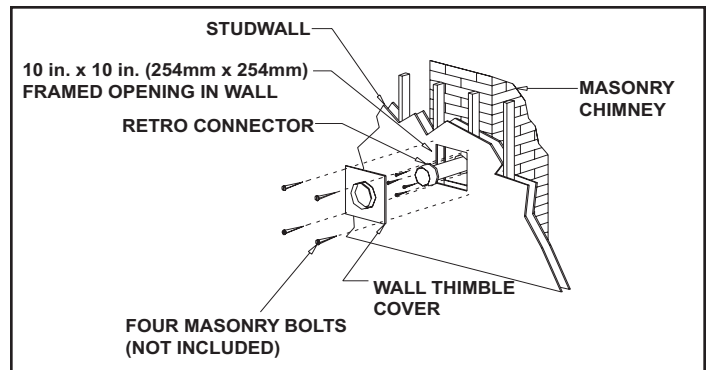
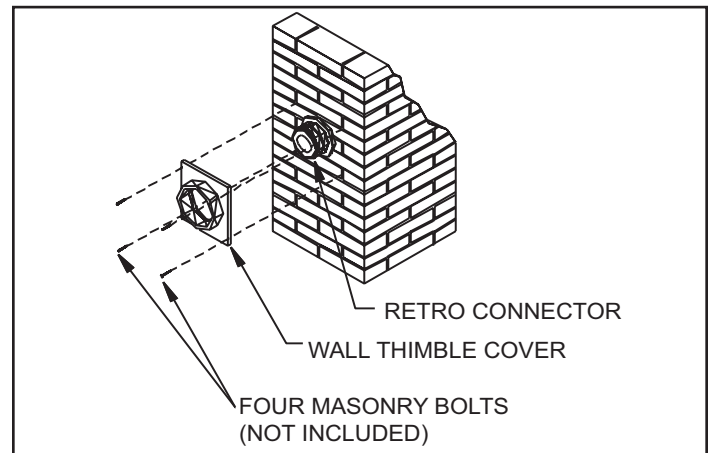

Figure 5.25
Figure 5.30
**Step 2** - Once the center point of the penetration has been determined, cut a 6 in. (152mm) diameter hole in the masonry. If the hole is too large, the retro connector might not mount properly; if the hole is too small, the appliance might starve for intake air. If there is a frame wall in front of the masonry wall, cut and frame a 10 in. (254mm) square opening in the wall (centered around the 6 in. (152mm) masonry opening). If there is sheet rock only (no studs) in front of the masonry the 10 in. (254mm) opening is still needed, but does not need to be framed. If the hole is framed a wall thimble is required. This allows the retro connector to mount directly on the masonry and provide the correct clearances to combustibles, Figure 5.25.
**Step 10** - Slide wall thimble cover over retro connector and secure with masonry bolts (Figure 5.30). If you have a framed wall in front of the masonry, use wood screws to mount wall thimble cover to framed wall, over retro connector and 10 in. (254mm) square framed opening (Figure 5.25). If needed, add a section of direct vent pipe to the retro connector in order to extend through the opening in the wall thimble cover.